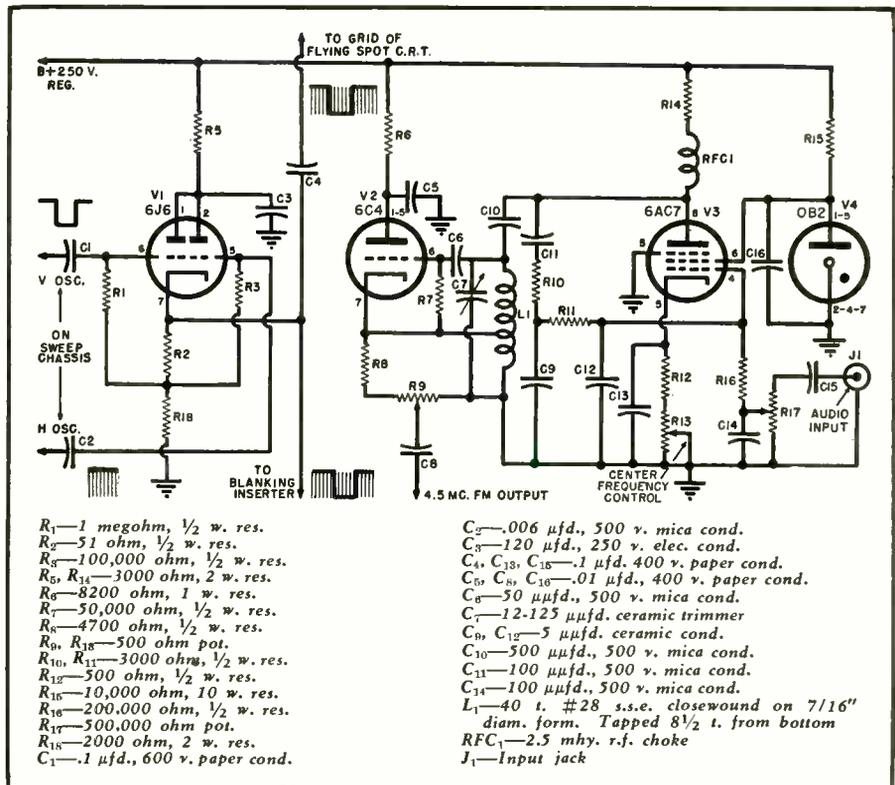

Fig. 2. Schematic diagram of blanking generator for negative input pulses and the FM sound generator unit. Operation of the 6J6 was described last month.
The 4.5 mc. FM sound generator, which is Item No. 9 in the block diagram in Part 1, is shown in Fig. 2. It is a stable Hartley oscillator which is frequency-modulated by a reactance modulator. The FM deviation of this generator is at least  $\pm 35$  kc. at 4.5 megacycles. The reactance tube functions as a variable inductive shunt across the oscillator tank circuit. The choice of 4.5 mc. was made so that when this generator is fed into a modulator it produces sidebands 4.5 megacycles away from a picture carrier and
If the TV receiver is to be used to furnish the sync pulses, positive as well as negative pulses are required from the receiver. The positive pulses are fed into the 12AU7 mixer tube,  $V_1$  in Fig. 3, while the negative pulses go to the sweep generator as shown in the June issue, Fig. 2.
**EDITOR'S NOTE:** The mixer tube was added to the modulator chassis after the photograph (Fig. 9, page 57 June issue) was taken. It is placed directly to the rear of the 12AU7 shown (at left) which is the blanking inserter and clipper. If internal sync is used, the bypass condenser ( $C_3$  in Fig. 2) is removed and a lead taken from the plates of the 6J6 blanking generator is fed to the combined positive horizontal and vertical blanking input, Fig. 3.